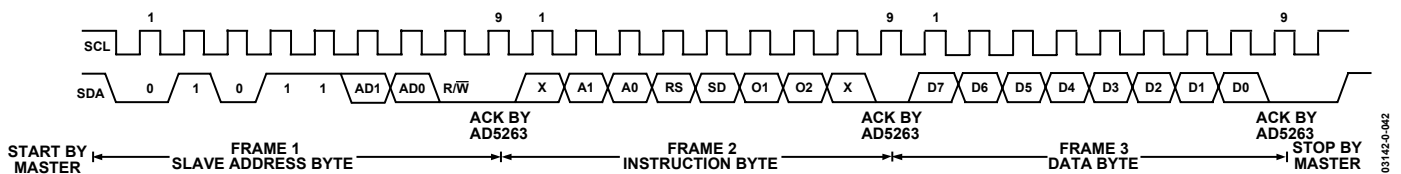
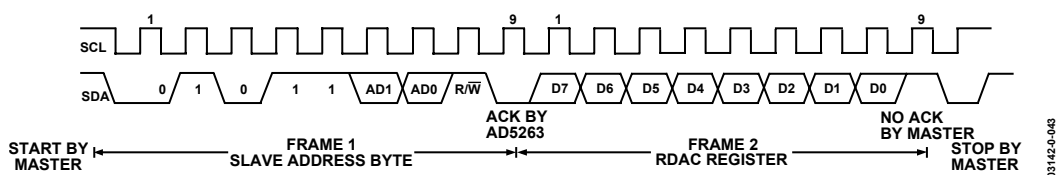

Figure 42. Writing to the RDAC Register
Figure 43. Reading Data from a Previously Selected RDAC Register in Write Mode
1. The master initiates a data transfer by establishing a START condition, which is when a high-to-low transition on the SDA line occurs while SCL is high (see Figure 42). The following byte is the slave address byte, which consists of the 7-bit slave address followed by an R/W bit. This R/W bit determines whether data will be read from or written to the slave device.
After acknowledging the instruction byte, the last byte in write mode is the data byte. Data is transmitted over the serial bus in sequences of nine clock pulses (eight data bits followed by an acknowledge bit). The transitions on the SDA line must occur during the low period of SCL and remain stable during the high period of SCL (see Figure 42).
3. In the read mode, the data byte follows immediately after the acknowledgment of the slave address byte. Data is transmitted over the serial bus in sequences of nine clock pulses (a slight difference with the write mode, where there are eight data bits followed by an acknowledge bit). Similarly, the transitions on the SDA line must occur during the low period of SCL and remain stable during the high period of SCL (see Figure 43).
Note that the channel of interest is the one that was previously selected in the write mode. In the case where users need to read the RDAC values of both channels, they need to program the first channel in the write mode and then change to the read mode to read the first channel value. After that, they need to change back to the write mode with the second channel selected and read the second channel value in the read mode again. It is not necessary for users to issue the Frame 3 data byte in the write mode for subsequent readback operation. Refer to Figure 43 for the programming format.
- After all data bits have been read or written, a STOP condition is established by the master. A STOP condition is defined as a low-to-high transition on the SDA line while SCL is high. In write mode, the master will pull the SDA line high during the tenth clock pulse to establish a STOP condition (see Figure 42). In read mode, the master will issue a no acknowledge for the ninth clock pulse (i.e., the SDA line remains high). The master will then bring the SDA line low before the tenth clock pulse, which goes high to establish a STOP condition (see Figure 43).
The AD5263 features additional programmable logic outputs, O1 and O2, which can be used to drive a digital load, analog switches, and logic gates. O1 and O2 default to Logic 0. The voltage level can swing from GND to  $V_L$ . The logic states of O1 and O2 can be programmed in Frame 2 under write mode (see Figure 42). These logic outputs have adequate current driving capability to sink/source milliamperes of load.